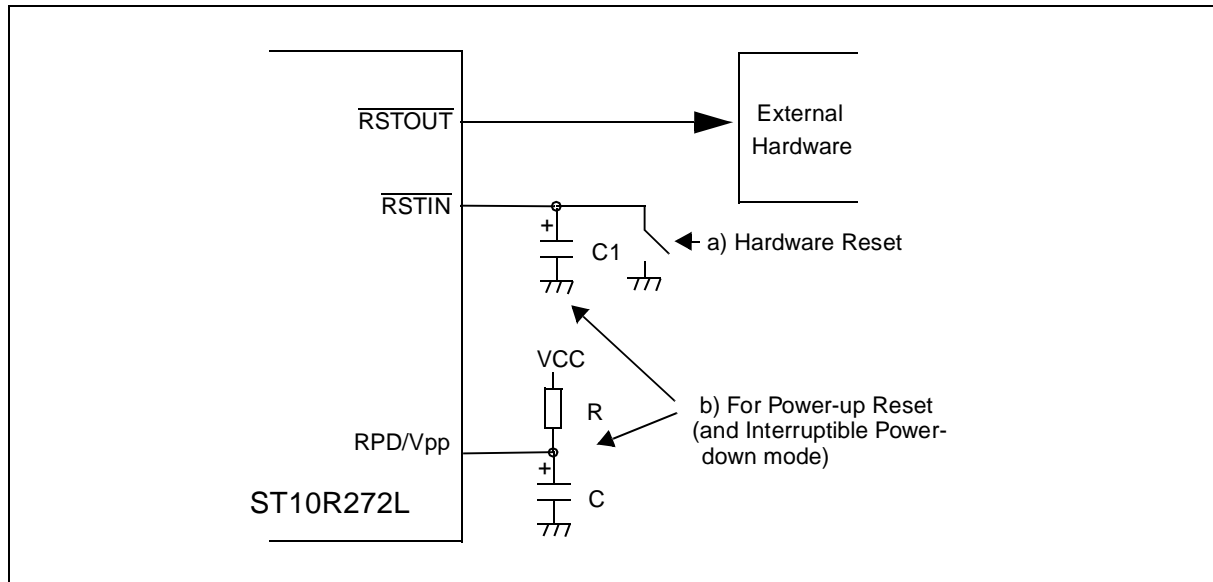

Figure 111 Minimum external reset circuitry
An asynchronous hardware reset is required during power-up, to guarantee correct power-up reset with controlled supply current consumption (especially if the clock signal requires a long stabilization time). It is recommended to connect the external RC circuit shown in *Figure 111* to the RPD/Vpp pin. On power-up, the logical low level on RPD/Vpp pin forces an asynchronous hardware reset when $\overline{\text{RSTIN}}$ is asserted. The external pull-up will then charge the capacitor C . Note that an internal pull-down device on RPD/Vpp pin is turned on when $\overline{\text{RSTIN}}$ pin is low, and causes the external capacitor (C) to begin discharging at a typical rate of 100 μA to 200 μA . With this mechanism, after power-up reset, short low pulses applied on $\overline{\text{RSTIN}}$ produce synchronous hardware reset, but if $\overline{\text{RSTIN}}$ is asserted longer than the time needed for C to be discharged by the internal pull-down device, then the hardware reset starts in a synchronous manner if a clock is applied, but is then forced in an asynchronous manner. This mechanism insures recovery from very catastrophic failure.
The minimum reset circuit of *Figure 111* is not adequate when the $\overline{\text{RSTIN}}$ pin is driven from an external device, because of the capacitor C1 that will keep the voltage above V_{IL} for short low pulses applied on $\overline{\text{RSTIN}}$ pin.